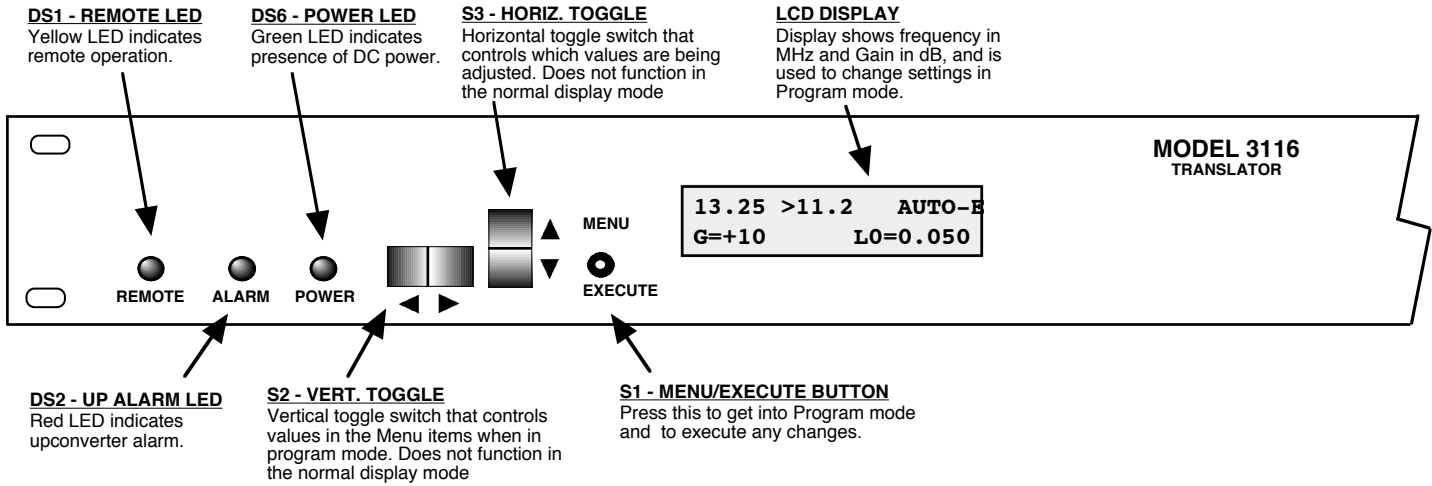

FIGURE 2.3 3116-T12-1311 Front Panel Controls and Indicators
Figure 2.3 shows the front panel controls and indicators.
4. Be sure DS6 (green, DC Power) is on and DS2 (red, Alarm) is off (Figure 2.3).
2.5.1 Functions - This section describes operation of the front panel controls. There are three operator switches, the LCD display and alarm indicator LEDs. All functions for the equipment are controlled by these components. The functions are (see Figure 2.3):
Alarm indications appear on the LEDs (See figure 2.3).